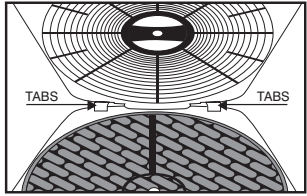

Fig. 19
8. Place the tabs at the bottom of the grill plate into the base of the unit. See Fig. 19